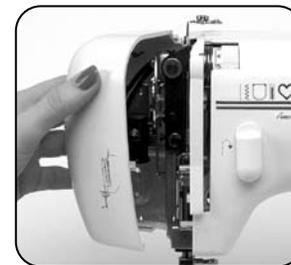

Fig. 4
1. Open the face cover [Fig. 4].